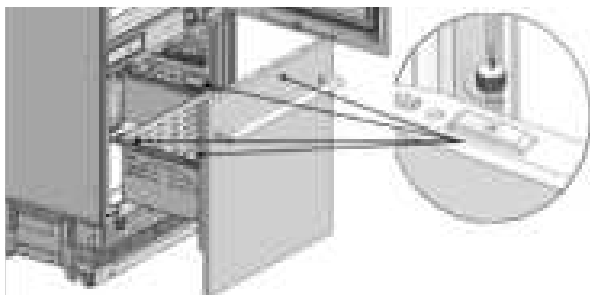

Figure 1
- Remove the four thumb screws (see Figure 1) and place them in a safe place. Carefully lift the front of the drawer and then the rear to remove (see Figure 2).